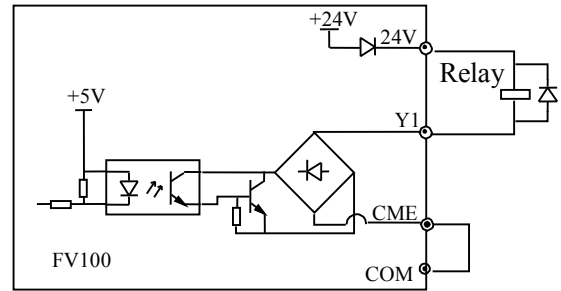
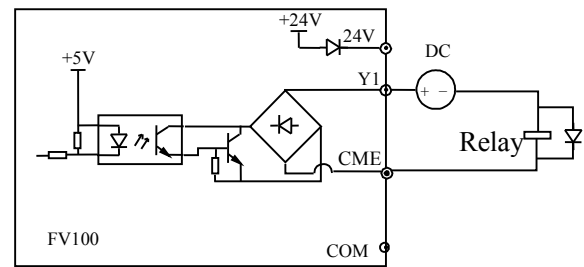

Fig 4-13 Wiring method 1 of multi-function output terminal Y1
Fig 4-14 Wiring method 2 of multi-function output terminal Y1
1. Multi-function output terminal Y1 can use the internal 24 power supply, the wiring is as shown in Fig.4-13
2. Multi-function output terminal Y1 can use the external 24 power supply too, the wiring is as shown in Fig.4-14.
5. The resistors R in Fig. 4-13 and Fig.4-14 should be removed for 24V input relays, and the resistance of R should be selected according to the parameters of relay for non-24V relay.